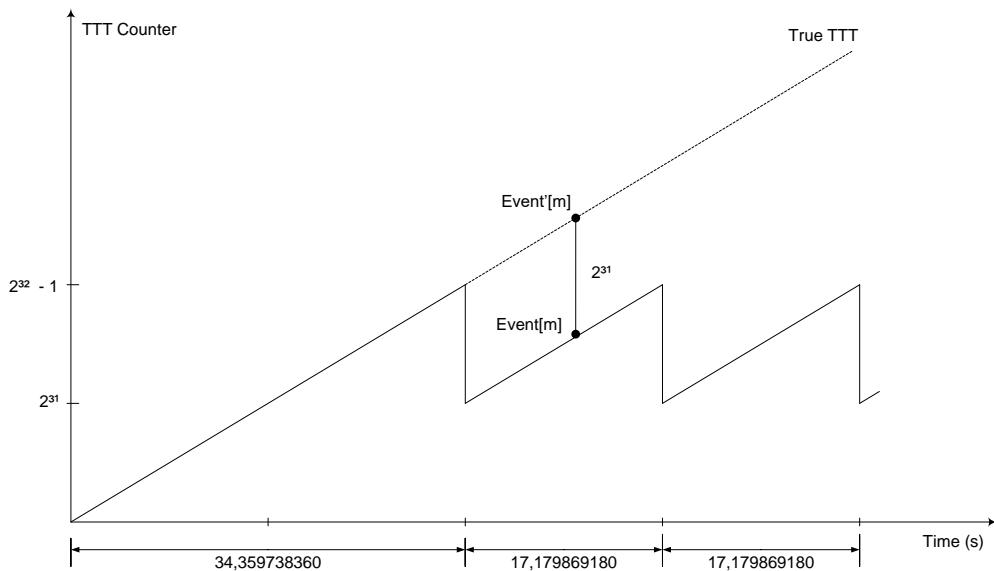
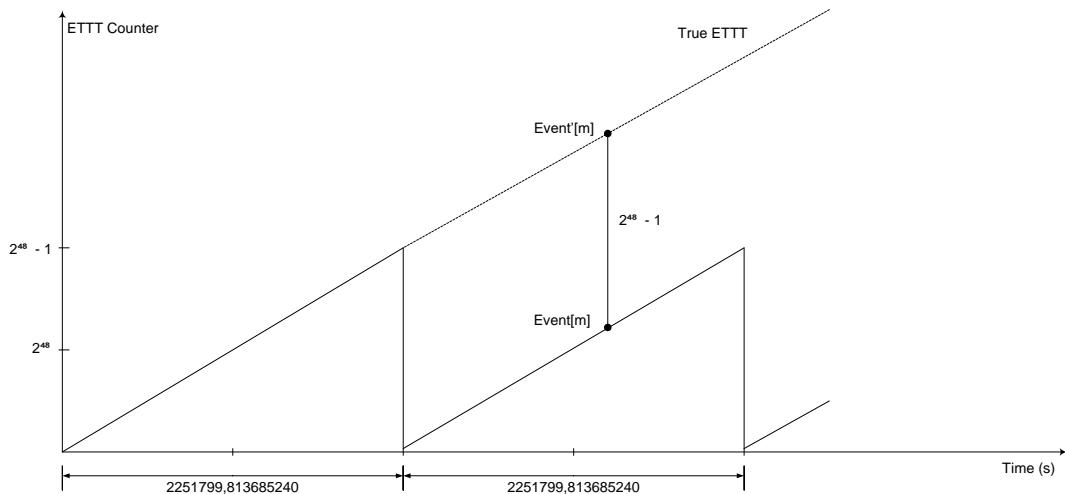

Fig. 10.8: TTT description in case of V1730
Fig. 10.9: ETTT description in case of V1730
- **TRIGGER TIME TAG** (bit[31:0] of 4th header word) is the 31-bit Trigger Time Tag (TTT) information (31 bit counter and 32nd bit as roll-over flag), which is the trigger time reference. The word is composed of the value of the 31-bit counter of the Trigger Time Tag (bit[30:0]) plus the overflow bit (bit[31]) indicating that the timestamp counter has overflowed at least once (Fig. 10.8). If the ETTT option is enabled, then this field becomes the 32 less significant bits of the 48-bit Extended Trigger Time Tag information in addition to the 16 bits (MSB) of the TRG OPTIONS field (2nd event word). Note that, in the ETTT case, the roll-over flag is no more provided (Fig. 10.9). The trigger time tag is reset either after each start of acquisition or via front panel signal on S-IN or LVDS I/O connectors, and increments at 125MHz frequency for both V1730 and V1725, which is every 4 ADC clock cycles for V1730 and 2 ADC clock cycles for V1725. The TTT value is read at half this frequency (i.e. 62.5 MHz), so the TTT specifications result in 16 ns resolution and 17 s range (i.e. 8 ns*(2³¹-1)), which can be extended to 625 h (i.e. 8 ns*(2⁴⁸-1)) by the Extended Trigger Time Tag option.